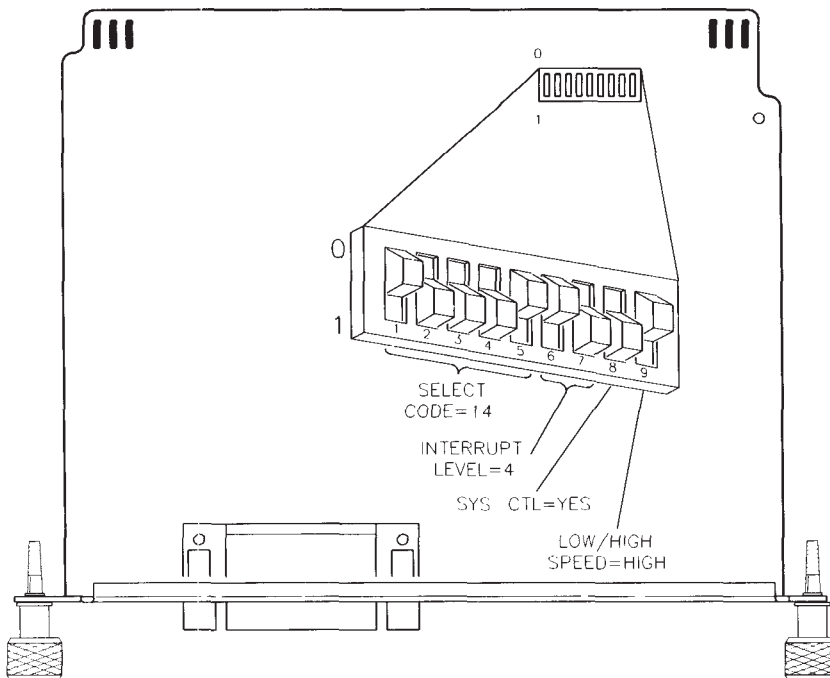

Figure 5-12.
- a. Find the set of nine switches by referring to Figure 5-12. Switches 1 through 5 in this group determine the select code.
- a. Find the set of nine switches by referring to Figure 5-12. Switches 6 and 7 in this group determine the interrupt level.
- b. If using HP-UX, set these switches to interrupt level 4 as shown in Figure 5-12. To get interrupt level 4, set the left switch to 0 and the
- a. Find the set of nine switches by referring to Figure 5-12. Switch 8 in this group determines the system controller setting.
- b. If connecting two computers together via HP-IB, only one of them may be set to system controller. To change this interface to non-system controller, move the system controller switch shown in Figure 5-12 to the 0 position (the opposite of that shown).
SKIP?	The Low/High Speed switch is preset to 0, “high speed,” as shown in Figure 5-12. This setting is appropriate for most applications. If you want to change this setting, continue with step 5; otherwise skip to step 6.
- a. Find the set of nine switches by referring to Figure 5-12. Switch 9 in this group is the Low/High Speed switch.
- To set this switch to “low speed,” set switch 9 to *1*, which is opposite of that shown in Figure 5-12.
- To set this switch to “high speed,” set switch 9 to *0* as shown in Figure 5-12.